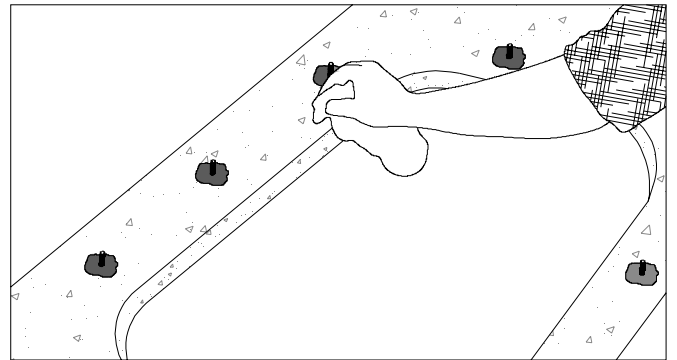

Figure 35B
- Clean under side of countertop around sink perimeter with a nonabrasive cleaner. (FIG. 35B)